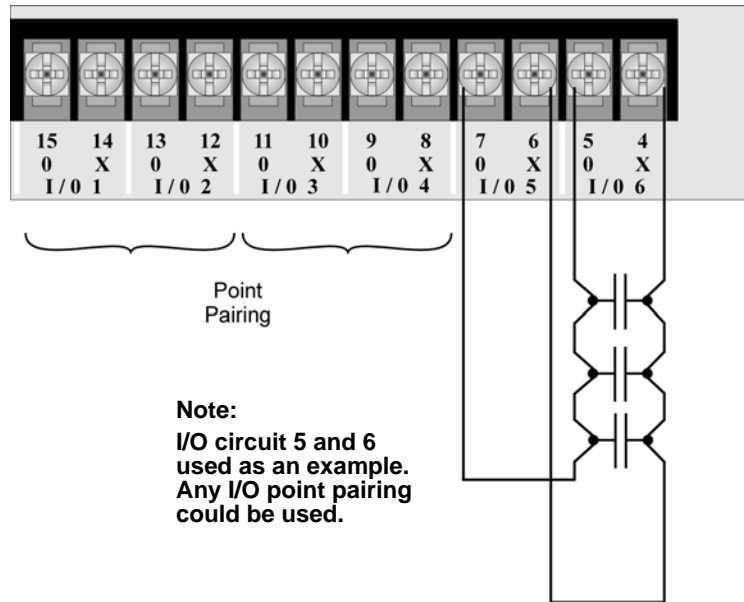

Figure 3.15 Class A initiating Switches
1. Wire the Class A switch as shown in Figure 3.15.
NOTE: In programming any point that uses multiple I/O circuits are always referred to as the lowest I/O circuit number used. For example, Figure 3.15 uses both I/O circuit 5 and 6, so in programming it would be referred to as point 5.